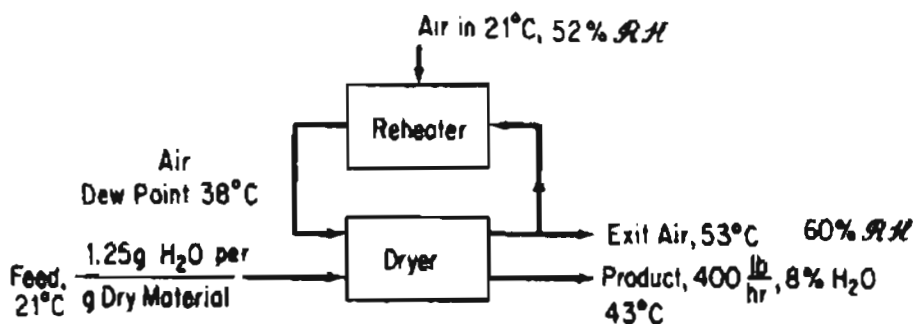

Figure P29.30
- **29.30** A dryer produces 180 kg/hr of a product containing 8% water from a feed stream that contains 1.25 g of water per gram of dry material. The air enters the dryer at 100°C dry-bulb and a wet bulb temperature of 38°C; the exit air leaves at 53°C dry-bulb and 60% relative humidity. Part of the exit air is mixed with the fresh air supplied at 21°C, 52% relative humidity, as shown in Figure P29.30. Calculate the air and heat supplied to the heater, neglecting any heat lost by radiation, used in heating the conveyor trays, and so forth. The specific heat of the product is 0.18.